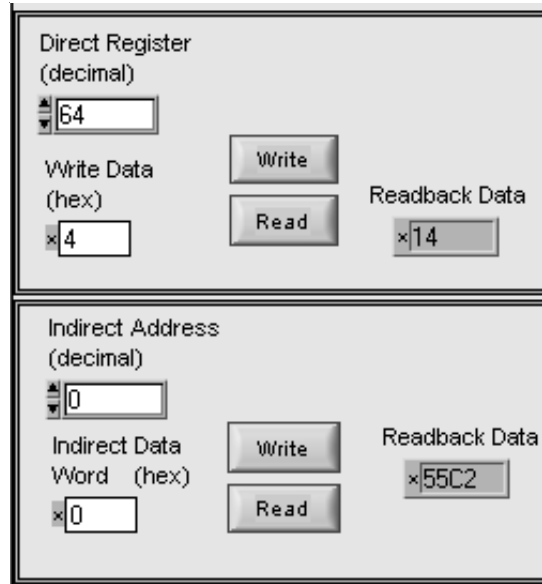

Figure 2. Read/Write Registers Box
- Type the register number and value into the boxes on the left of the screen and then click *Write*. (See Figure 2.)
To read a single register type the register number into the boxes shown in Figure 2 and click *Read*. To read all direct registers turn *Continuous Read All* on, and to read all indirect registers press *Read All Indirect*.